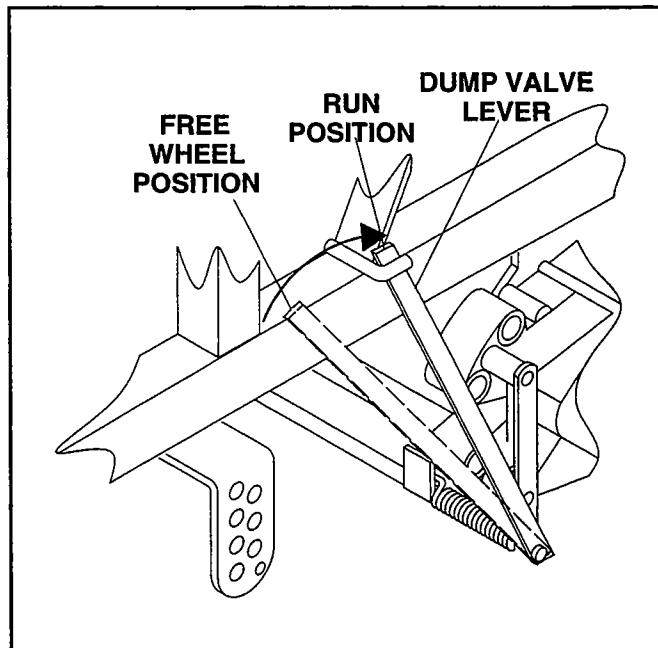

Figure 7
2. Move dump valve lever, on LH side of mower, behind hook on frame to close hydraulic dump valves on pump. (**See Figure 7**) Pull lever back and to the left, then push forward to relieve pressure.
To release drive wheel so machine will roll without engine running, pull dump valve lever for hydraulic dump valve back from hook on frame. Move to left and push forward to relieve pressure. Lever is on LH side of mower. (**See Figure 7 on page 7**)